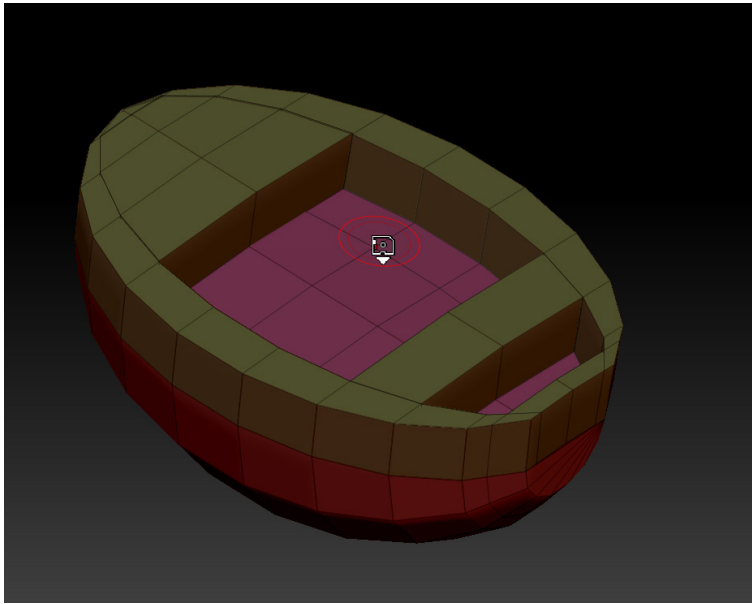
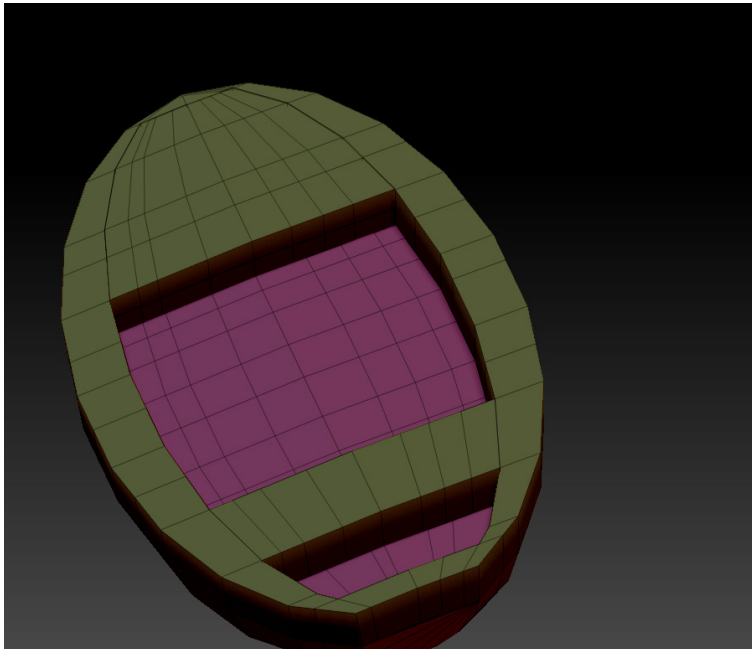

Figure 3-120 The edge loop added
Figure 3-121 The edge loops created
10. Hover the cursor on the edge and click; the edge loop is added, as shown in Figure 3-120. Similarly, add more edges on the boat model, as shown in Figure 3-121.